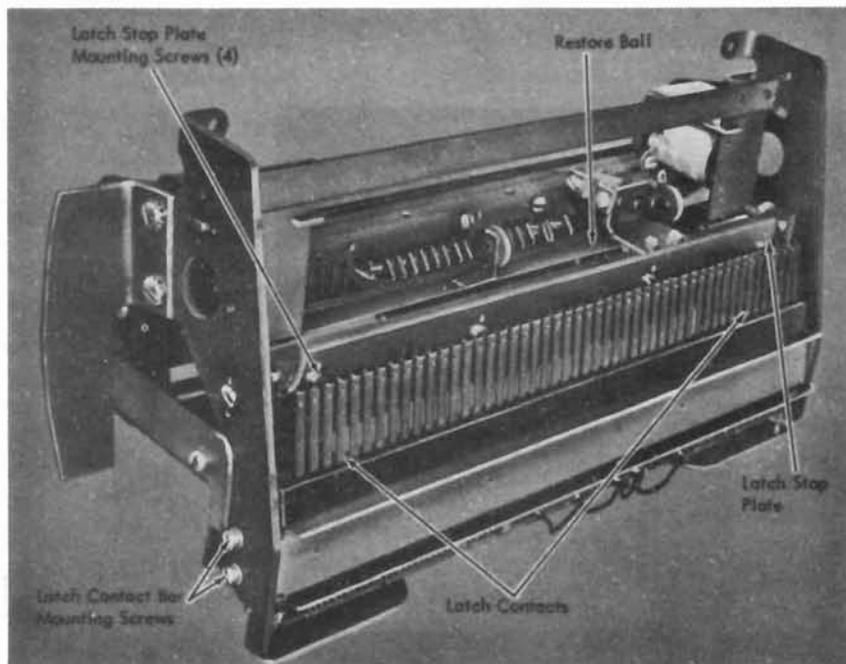

Figure 4-55. Keyboard Permutation Unit - Bottom
1. Loosen the four screws (Figure 4-55) that hold the key unit to the permutation unit.
8. Remove the four screws from the latch stop plate (Figure 4-55).